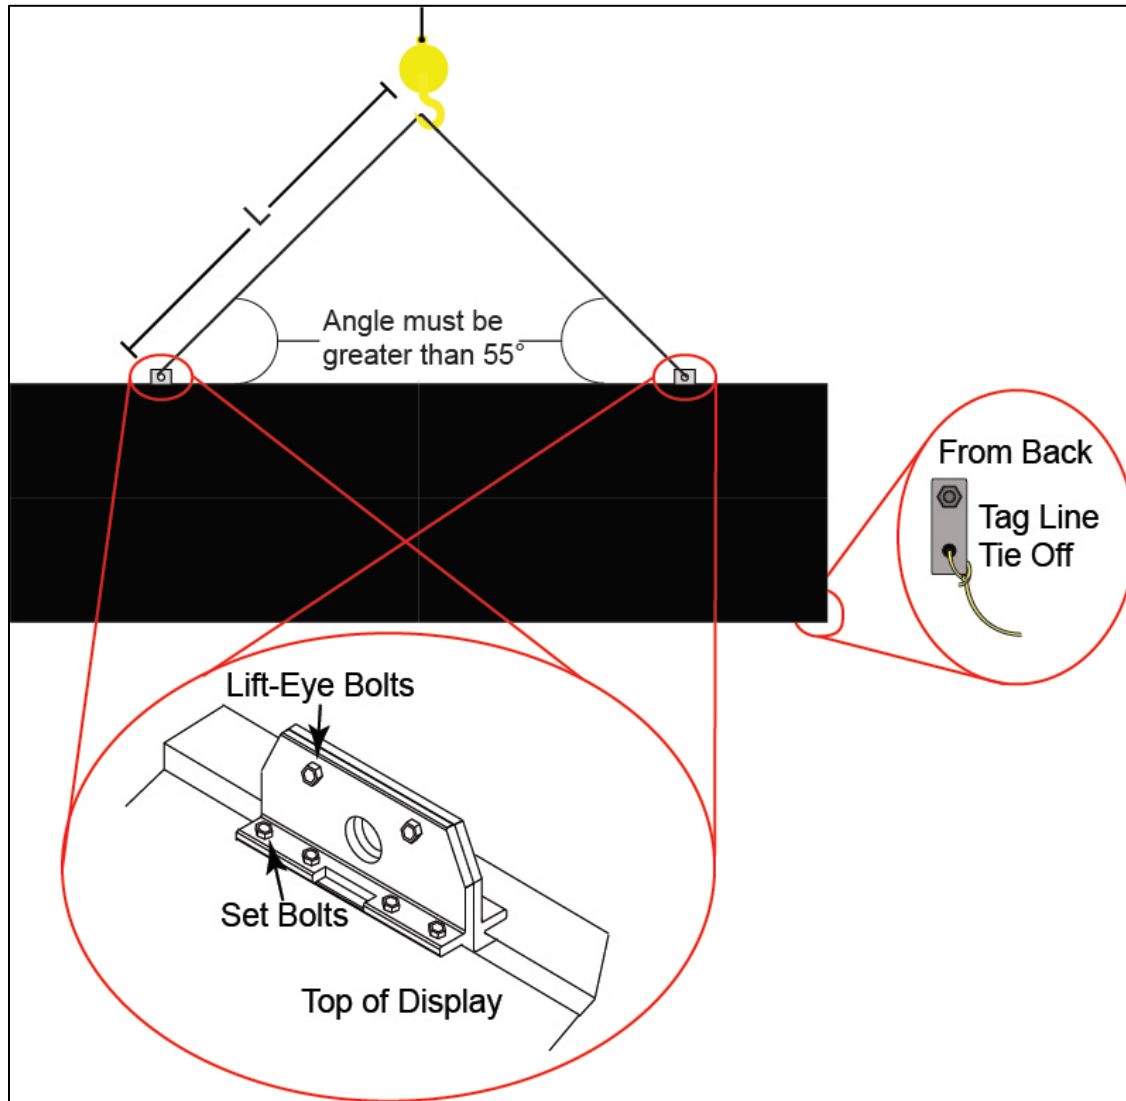

Figure 6: Display Lifting Illustration
4. Verify that the lift-eyes are installed. Also verify the set bolts and the lift-eye bolts are in place. Refer to **Figure 6**. The lift eye spacing is set at Daktronics and should not be moved without the Project Managers permission.
Note: Ensure the angle between the top of the display and the lifting strap is greater than 55°. Refer to **Figure 6**. The table below shows Daktronics recommended strap lengths for some common display sizes.
- Tie tag lines to the provided tag line tie offs on the bottom corners of the display. Refer to **Figure 6**.